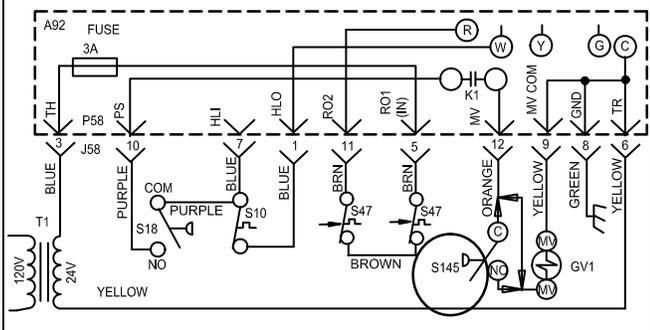

FIGURE 5
- 11 - Thread pressure switch (S145) to brass fitting 2 to 3 turns past hand tight, then wire as shown in figure 5.